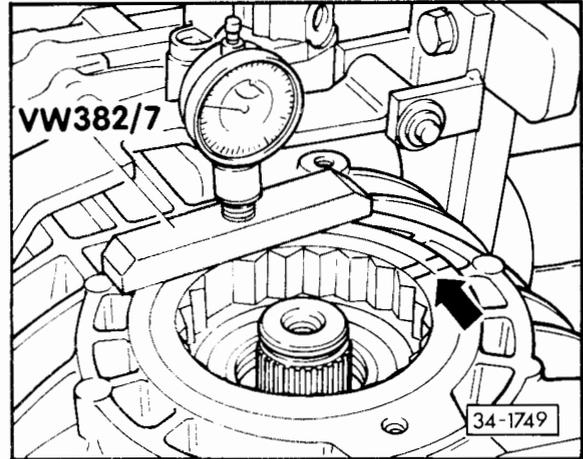

Fig. 3 Determining and marking position of adjusting ring
- Mark before removing – Fig. 3
- **Before removing:** Loosen left final drive adjusting ring to relieve preload in gearbox housing. Mark position of adjusting ring beforehand – Fig. 3